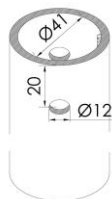

Figure 4: Mounting holes in pipe
4. Mark and centre-punch two positions diametrically opposite, at 90° to the pipe seam, 20mm from top of the pipe (Refer to Figure 4). Then drill two 12mm diameter holes.